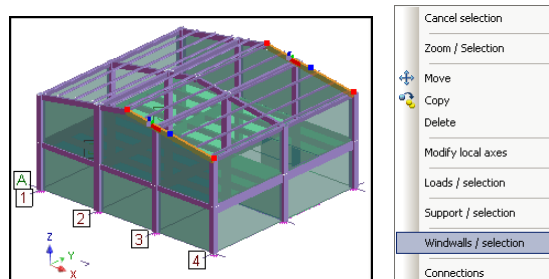

Figure 109: Automatically generating windwalls between two selected elements
1. Select two opposite transverse beams of the first level, as shown in Figure 109.